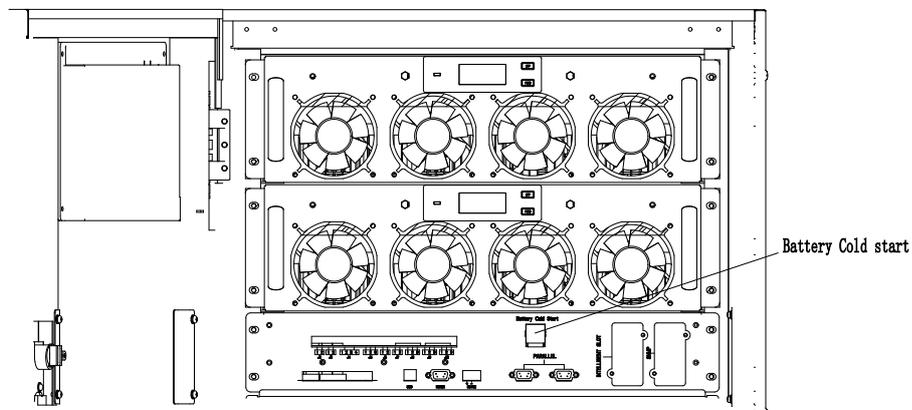

Fig.5-1 The position of the battery cold start button
2. Press the red button for the battery cold start (See Fig.5-1). The system is then powered by the battery.